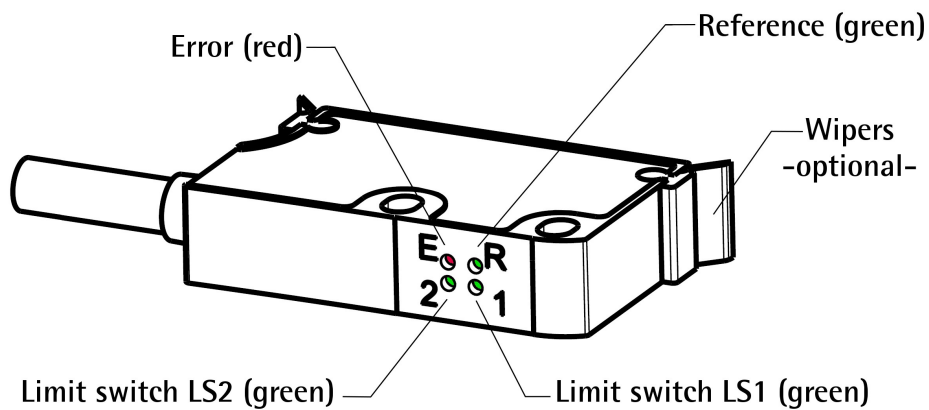

Figure 10 - Diagnostic LEDs and optional cleaning wipers
4.10 Diagnostic LEDs (Figure 10)
The following list shows some typical faults and errors that may occur during installation and operation of the magnetic measurement system. Refer also to the "4.10 Diagnostic LEDs (Figure 10)" section on page 25.